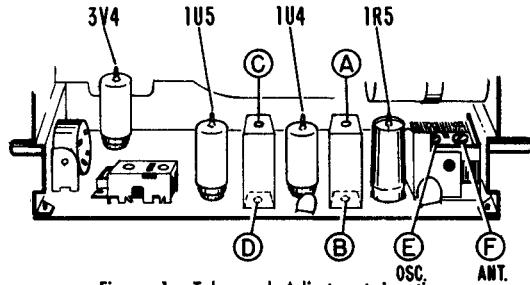

Figure 1. Tube and Adjustment Location.
*Adjustments B and D are made from underside of chassis. See figure 1. To avoid splitting the slotted head of powdered iron tuning slug in IF transformers, use an alignment tool for IF transformers, use an alignment tool with a blade 3/32" wide.
* Adjustment "A" made from underside of chassis; see figure 1.